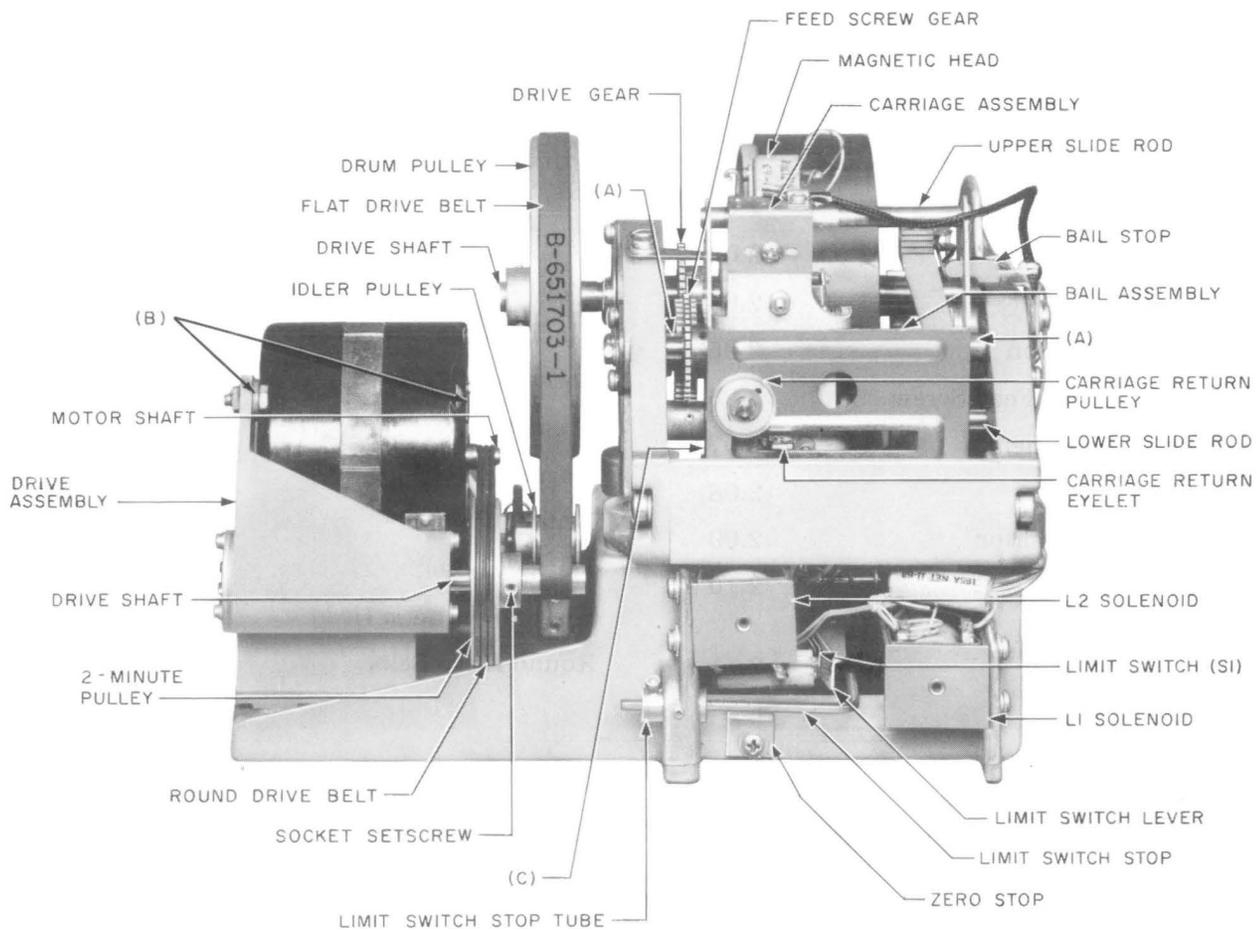

Fig. 1—KS-16765 L3 Recorder—Front View (Later Type Shown)
**1.20** KS-16765 L3 recorder equipped with the drive assembly, shown in Fig. 1, may be converted from a 2-minute maximum announcement recording capacity to a 3-minute maximum recording capacity by replacing the 2-minute pulley with a 3-minute pulley as covered in 3.004.
- (b) **B-650418 Motor Bearings:** Two drops of ♦KS-16326 L1♦ oil to each of the two oil reservoirs (one at the shaft and one at the rear of the motor) [Fig. 1, (B)] as applicable. Earlier models of the motor require no lubrication.
- (c) **Feed Screw Bearings:** Two drops of ♦KS-16326 L1♦ oil to ♦each of the two♦ feed screw bearings [Fig. 1, (A) and 2, (A)]. Apply where the feed screw enters its bearings.
- (b) The endplay of the bail assembly [Fig. 1, (C) and 2, (C)] shall be